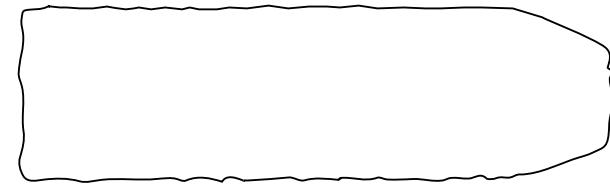
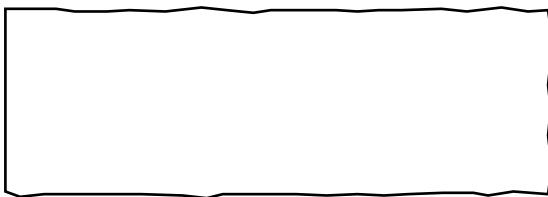

Fig. M8
Fig. M9
3. If the envelope is as shown in Fig. M7, adjust the height of Guide Roller [2] (Refer to Fig. M3) so that the waveform looks like the one shown in Fig. M9.
4. If the envelope is as shown in Fig. M8, adjust the height of Guide Roller [3] (Refer to Fig. M3) so that the waveform looks like the one shown in Fig. M9.
5. When Guide Rollers [2] and [3] (Refer to Fig. M3) are aligned properly, there is no envelope drop either at the beginning or end of track as shown in Fig. M9.